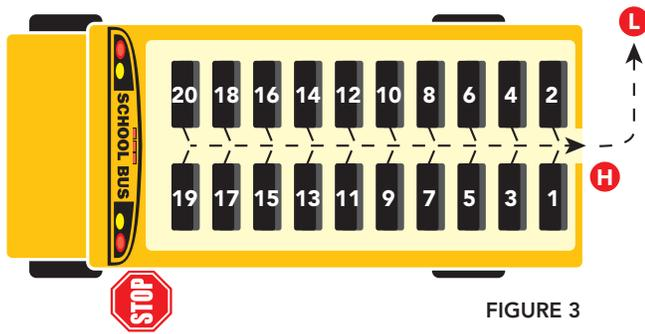

FIGURE 3
20. Complete reports. (see figure 3.)